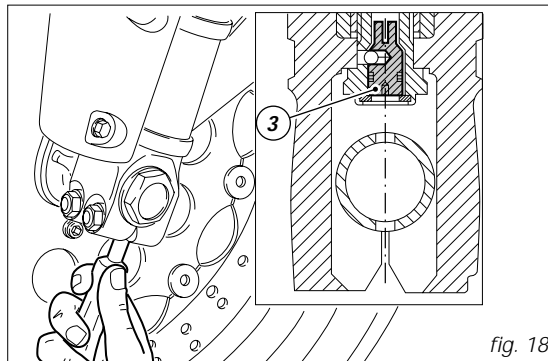

fig. 18
3) (fig. 18) to adjust compression damping.